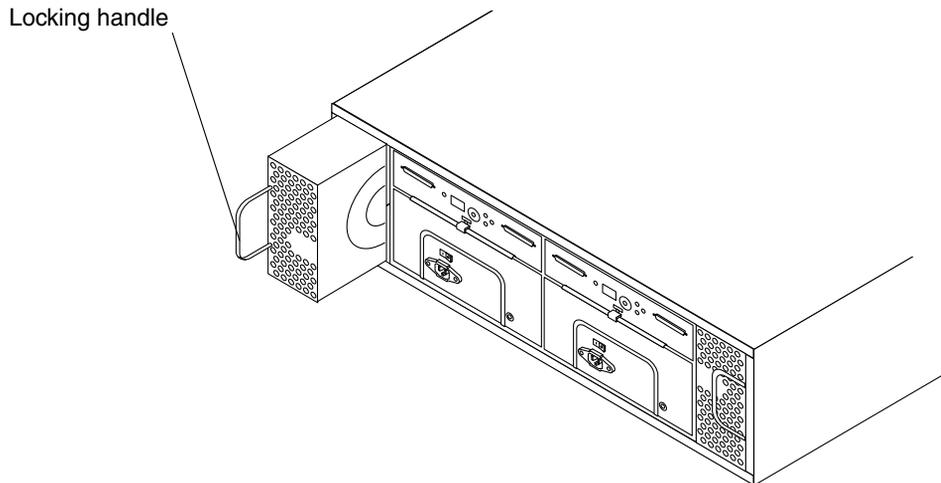

FIGURE 4-4 Removing and Replacing a Fan Canister
1. Release the locking handle and pull the fan canister out (FIGURE 4-4).